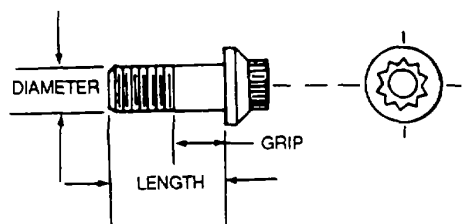

Figure 2-6. External Wrenching Bolt
i. External Wrenching Bolts. External wrenching bolts (12 point), as shown in figure 2-6, are high-strength bolts used primarily in tension applications. They are furnished with either drilled or undrilled heads. The radius under the head of this bolt requires a high tensile countersunk washer (MS20002) to be used in conjunction with this bolt. Do not substitute a common aircraft bolt for a high tensile bolt.